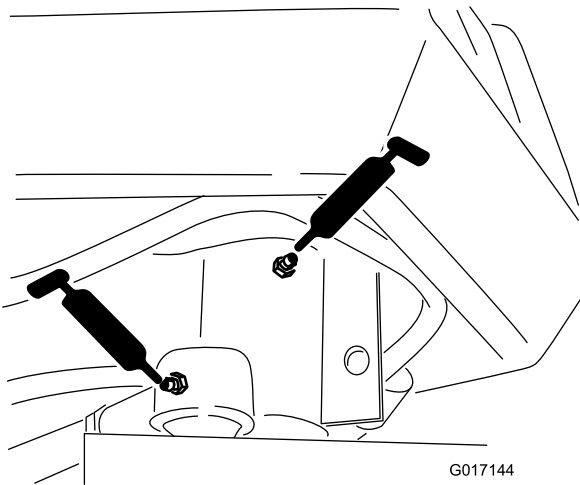

Figure 36
- Steering fork shaft (1) (Figure 36)
- Steering cylinder rod end (Figure 36)